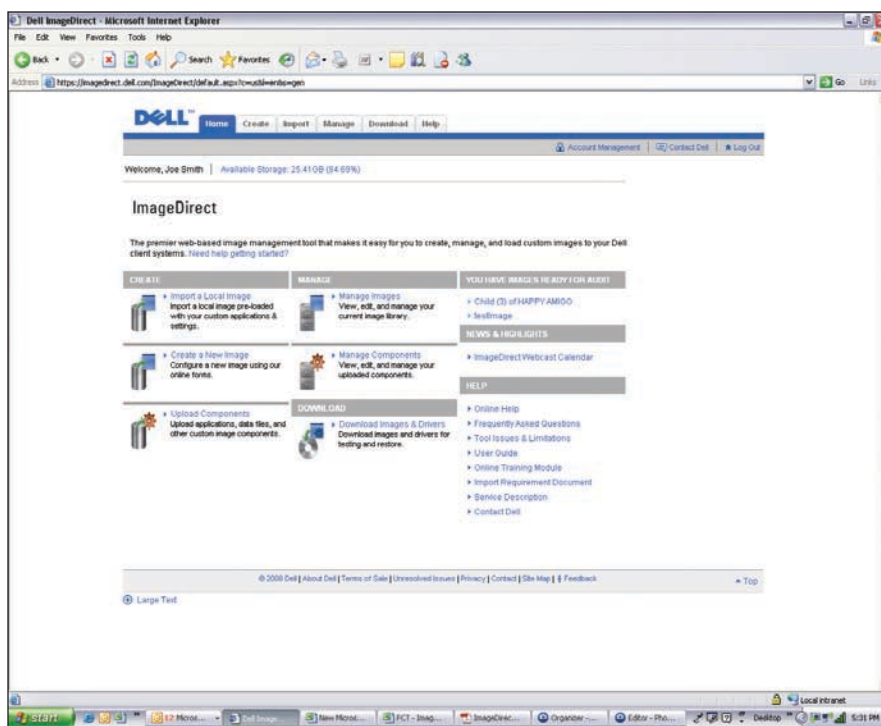

Figure 1. Administrators access the Dell ImageDirect service through an intuitive Web browser-based interface
- **Easy-to-use interface:** ImageDirect employs an intuitive, icon-based interface that guides administrators quickly through tasks such as uploading, creating, and managing images (see Figure 1).